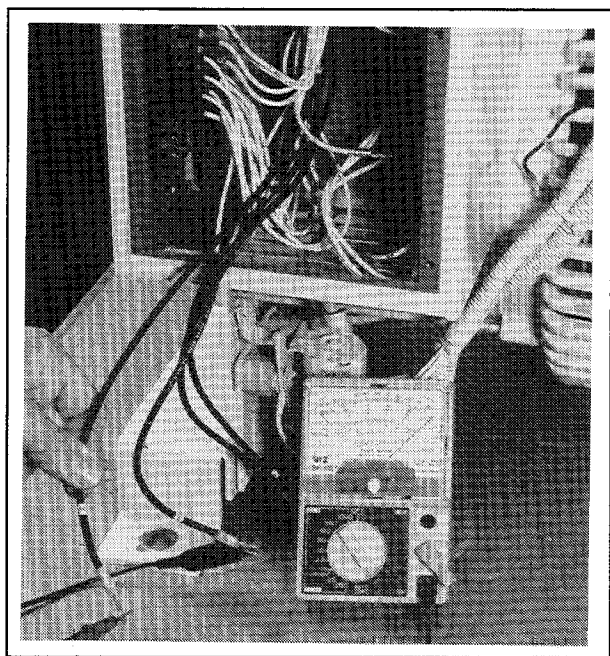

Figure 8-6. Testing Stator Windings
2. To check stator continuity, set ohmmeter on R x 1 scale. Contact the red and black meter leads; adjust ohmmeter to zero ohms. Check stator continuity by connecting meter leads to stator leads as shown in Figure 8-6.